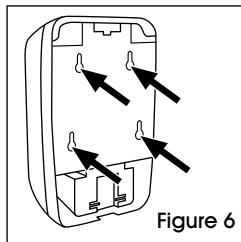

Figure 6
3. Install #10 x 1" anchors into the 4 drilled holes. Insert Type A #10 x 1" screws into installation holes in backplate and through installation tape. (See Figure 6)